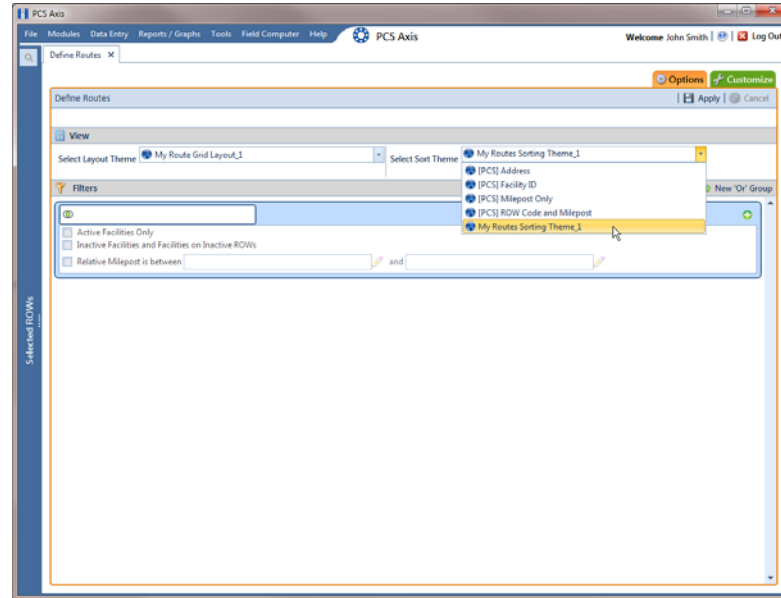

Figure 8-47. Options
- 9 Verify the name of the new sort theme displays in the field *Select Sort Theme*. If not, click the down arrow in **Select Sort Theme** and select the new theme in the selection list (Figure 8-47, page 403).
- a Click the **Options** tab  to open the options page (Figure 8-47, page 403).